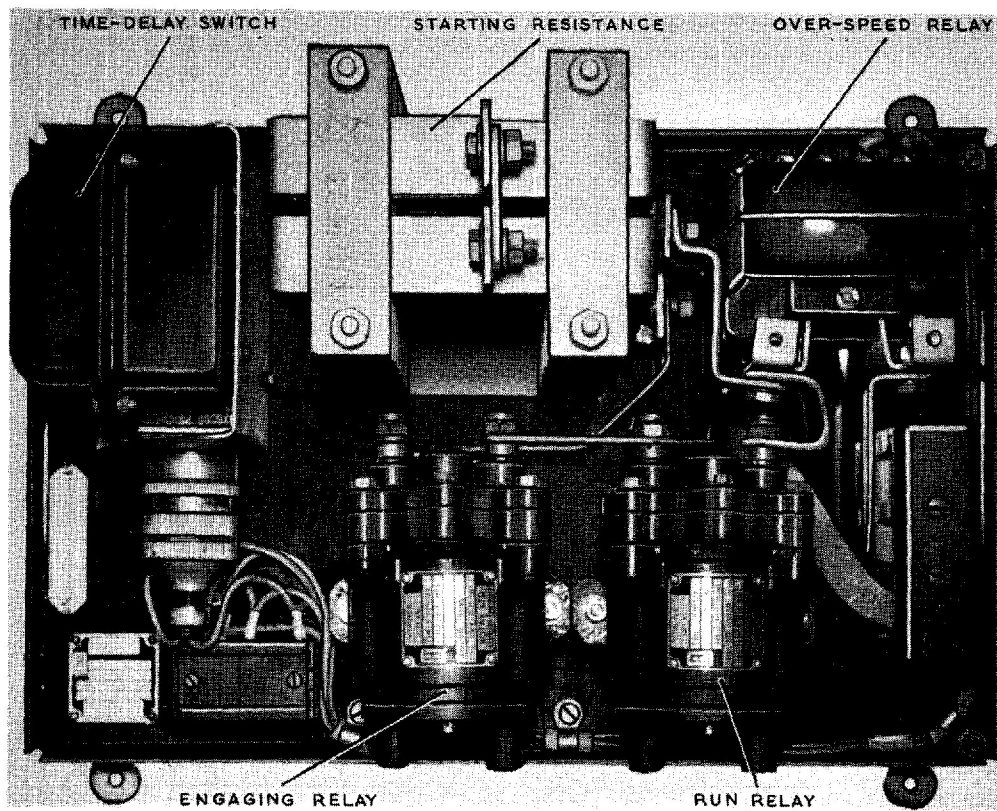

Fig. 2. Start panel
3. The start panels, one of which is illustrated in fig. 2, carry the time delay switches overspeed relays, starting resistances, engaging and run relays. Four start panels are fitted to each trolley, these are situated on the console immediately behind the control panel. A complete description of the start panel, together with servicing instructions appears in A.P.4343C, Vol. 1, Book 3, Sect. 8.